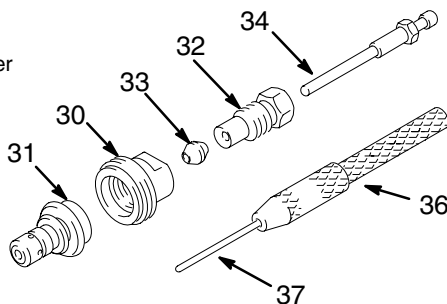

Fig. 3
NOTE: This kit includes the parts shown in Fig. 3, except the pin vise (36) which holds the cleaning pin (37), and the nozzle retainer (30) which is part of the gun. The wrenches mentioned in the following instructions are provided with the gun.